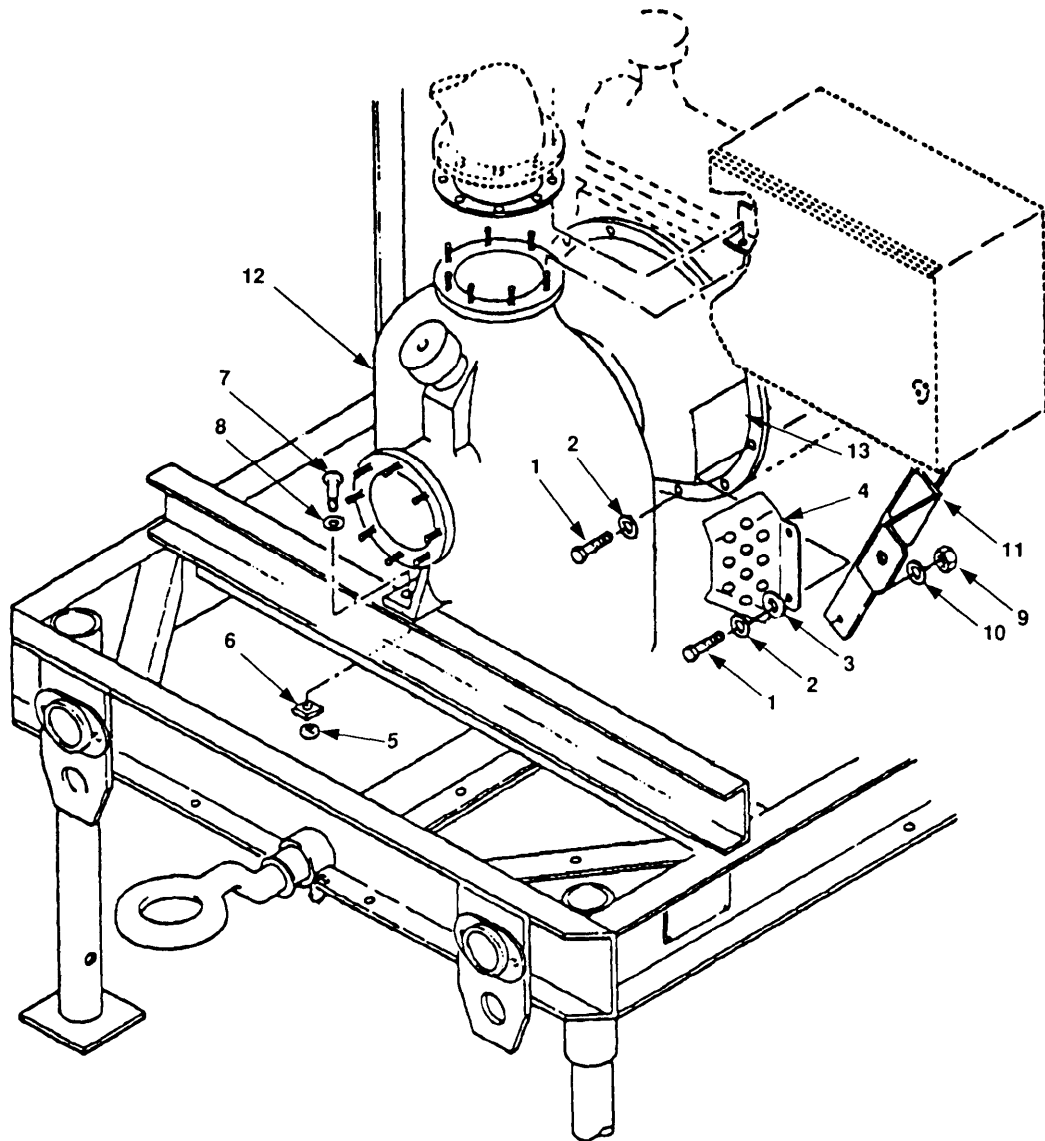

Figure 5-11. Centrifugal Pump Maintenance.
- a. Remove twelve bolts (figure 5-11, 1), lockwashers (2), four washers (3), and two intermediate bracket covers (4).
- b. Remove two lock nuts (5), beveled washers (6), bolts (7), and washers (8).
- c. Remove nut (9) and lockwashers (10) and position bracket (11) clear of centrifugal pump (12) .